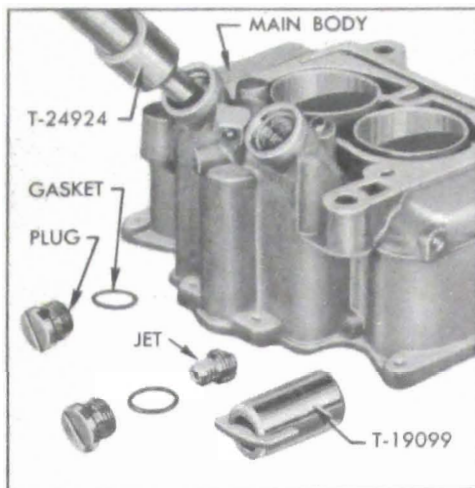

Figure 3-69—Removing Plug and Main Metering Jet
12. Remove main discharge jet plugs using Screw Driver T-19099, remove copper gaskets, then remove main metering jets using Jet Socket T-24924. See figure 3-69.
9. Install main metering jets, using Jet Socket T-24924. Install main discharge jet plugs, using new copper plug gaskets if available; otherwise make sure that plugs and seats are clean to insure tight joint. Tighten plugs with screw driver T-19099. See figure 3-69.